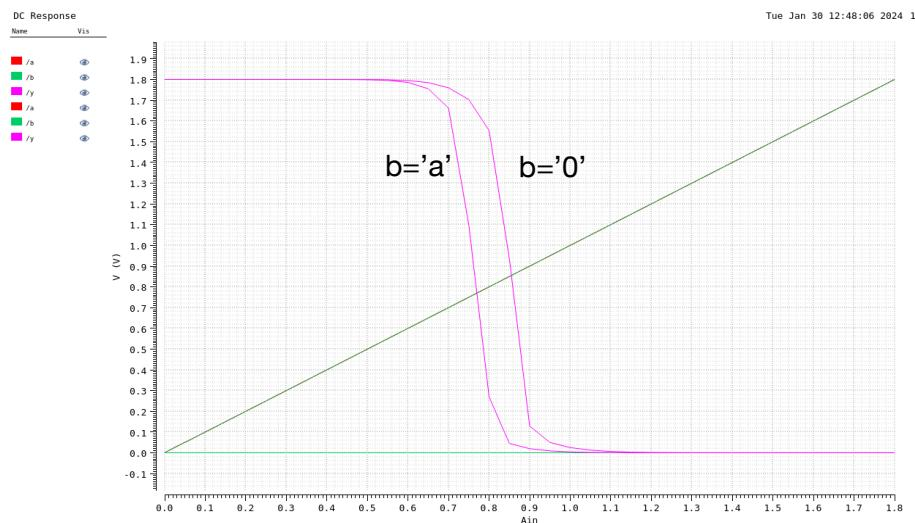

Figure 2. DC simulation results of nor2.
The switching characteristics of the nor2 cell were simulated by using the DC simulation tool and the Spectre simulation software. Figure 2 shows the output ‘y’ (shown in pink) versus the input ‘a’ (shown in green) for two cases: (1) input ‘b’ was held fixed to 0 V and (2) input ‘b’ was equal to ‘a’ as the input was swept from 0 V to VDD in 0.05 V increments. In both cases, the output switches from VDD to 0V as expected and prior to ‘a’ reaching the midpoint (0.9 V). This “early switching” indicates that the strength of the pull-down network is greater than the pull-up network, which is accentuated in the case where ‘b’=‘a’.